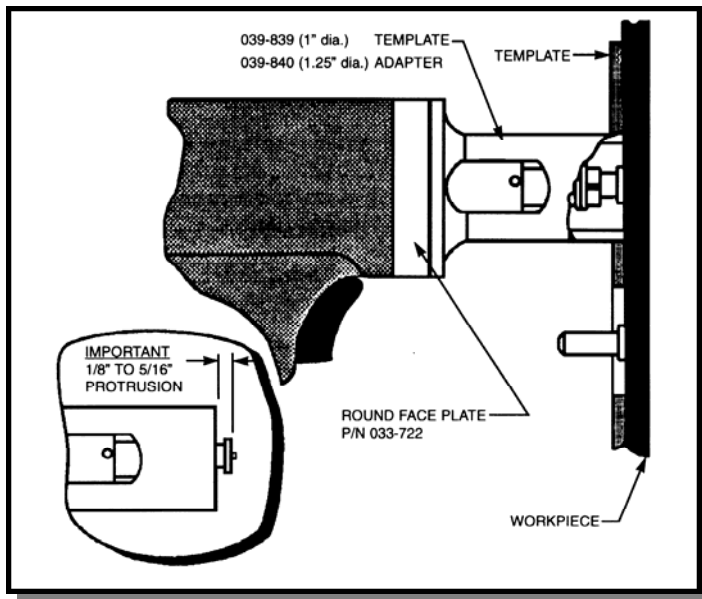

Figure 8 Template Adapter gun setup
11.5 COLLET PROTECTOR/BLUNT LEG (see Figure 8)
The round faceplate, with blunt legs, can alternatively be used with the collet protector as shown in Figure 8.